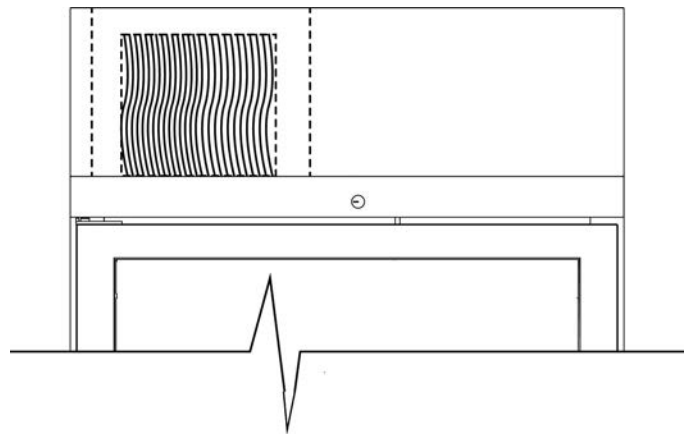

Fig 1: Location of Condenser
- The condenser is located on the left-hand side of the cabinet behind the front panel (**Fig 1**). To remove the front panel, lift it up to free it from the locating blocks. Once free, pull the panel carefully forward and away from the refrigerator to have full access to the condenser and would be able to clean it.